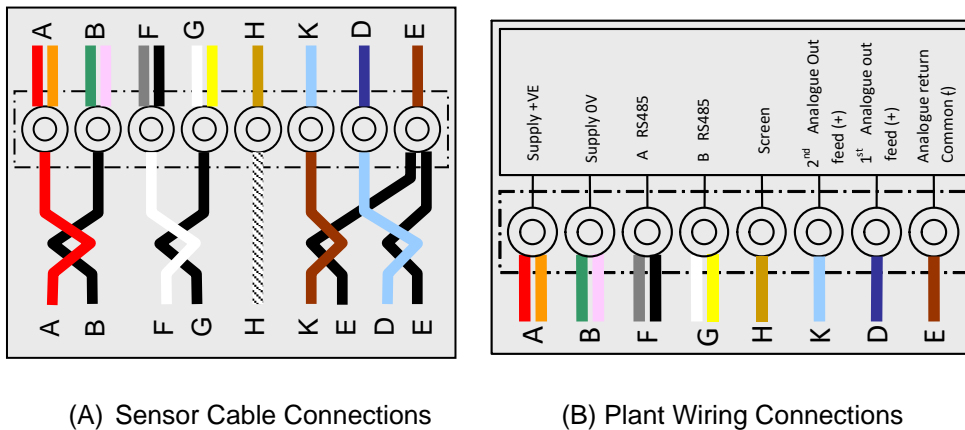

Figure 8: Wiring Diagram
- Connect to the terminals as per the diagram in the Rotating Connector (see Figure 8).
- Feed the installation cabling through the housing cable gland and cut to length. Wire the installation cable to the fixed terminal block as per the diagram in the lid (see Figure 8). Connect the removable terminal block plug from the slip ring sub-assembly.
- Feed the plant cabling through the housing cable gland and cut to length. Wire the plant cable to the fixed terminal block as per the diagram in the lid (see Figure 8).